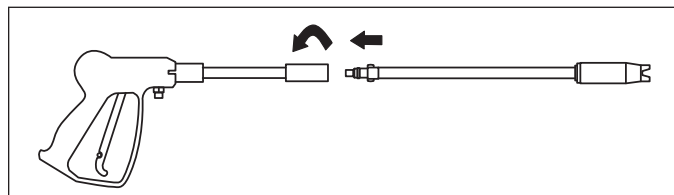

Figure 3 – Gun / Lance Connection
1. Insert lance into the gun and turn clockwise to positive stop as shown in Figure 3.